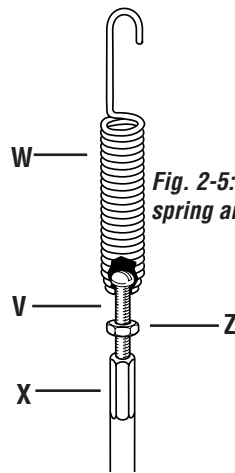
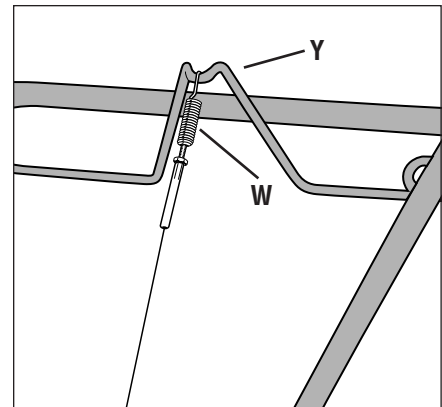

Fig. 2-5: Assemble spring and adjuster.
Fig. 2-6: Install forward clutch cable.
| 1 | Spring, cable (see W, Fig. 2-5, page 8) |
| 1 | Bracket, forward clutch cable (see P, Fig. 2-5, page 8) |
3. Insert the #10-24 x 2" slotted hd. screw (V, Fig. 2-5) down into the cable spring (W). The threaded end of the screw will extend from the bottom of the spring.
4. Thread the #10-24 hex nut (Z) on the slotted head screw (V). Thread it halfway up.
5. Thread screw (V) into cable adjuster (X).
6. Hook cable spring (W, Fig. 2-6) into "V"-shaped bend in the forward clutch bail (Y).